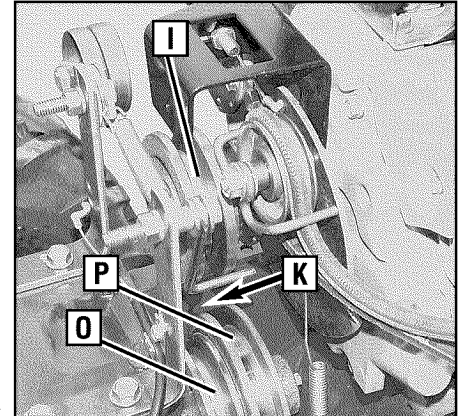
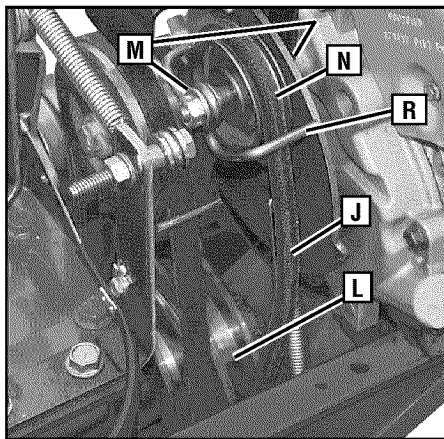

Figure 5-20: Arrow (K) shows insertion point for installing new forward clutch belt.
Figure 5-22: Right-side view.
3. From the front of tiller, insert the forward clutch belt in between the bottom of the engine drive pulley (I) and the top of transmission pulley (K, Figure 5-20).
pull down on the belt and roll it onto the large, forward-most groove of the transmission pulley (P, Figure 5-20).
The reverse clutch belt (J, Figure 5-22) is driven by the engine drive pulley (I, Figure 5-20). When the Reverse Clutch Control knob is pulled out, it pulls the reverse idler arm and pulley (N) which tightens the belt against the engine drive pulley. This drives the transmission drive pulley (L), resulting in reverse motion.
3. Pull the reverse clutch belt downward and slip it off the transmission pulley (L, Figure 5-22).
4. Use two 1/2" wrenches to loosen and remove wire belt guide (R, Figure 5-22) from the reverse idler arm pulley. Do not remove locknut and screw.
IMPORTANT: The reverse belt has a "V" shape. When installing the belt, make sure that the widest (flat) side of the belt rides against the reverse idler pulley (N, Figure 5-22) and transmission pulley (L, Figure 5-22). If needed, the belt can be twisted "inside out" so that the "V" shaped side is on the outside and the widest side is on the inside.
3. Insert the belt down into the front of the transmission housing. Slip the top half of the belt onto the reverse idler arm pulley (N).
4. Pull the belt downward and loop the bottom half of belt around the front groove of transmission pulley (L, Figure 5-22).
6. (You will need an assistant to help with this step.) Pull the reverse idler pulley (N) up to its highest point and position the belt guide (R) horizontally level as shown in Figure 5-23. Securely tighten the screw and lock nut (M, Figure 5-22).